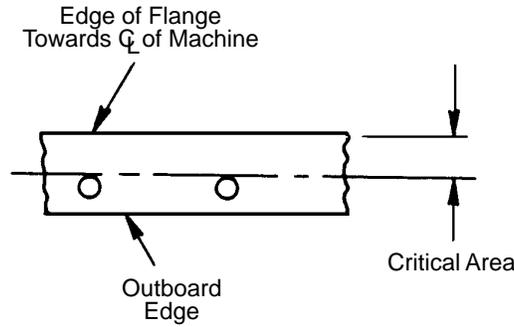

Figure 2-1. Typical Flange Joint Makeup
- d. To insure an oil tight joint, a line of continuous contact, with 0.25 in. minimum width, must be maintained, in addition to 50% contact over the critical area. The 50% contact must be equally distributed over the critical area. See Figure 2-1.